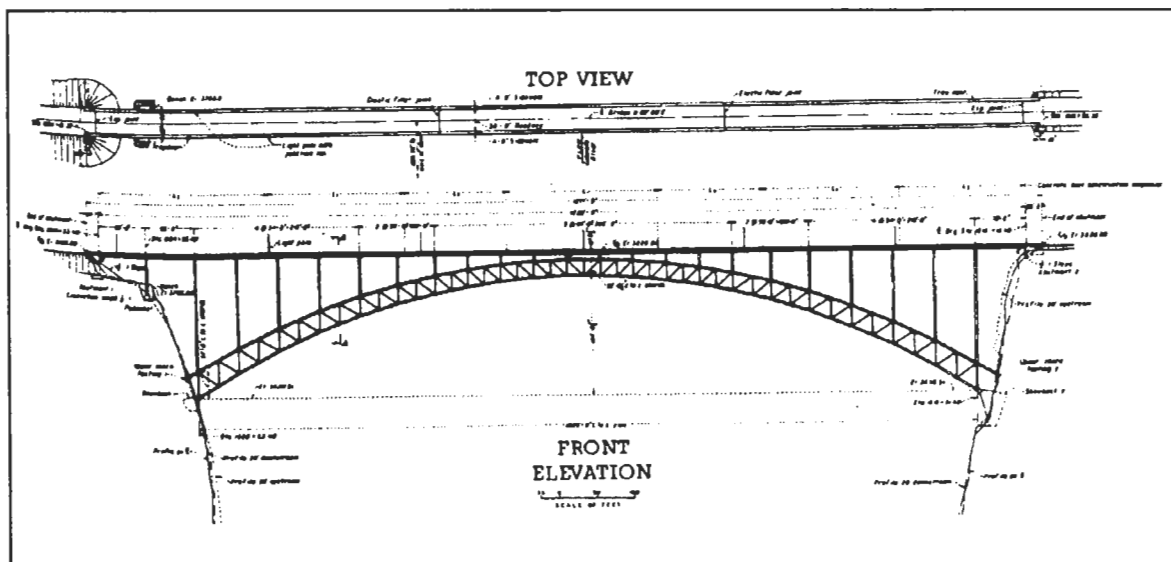

Figure 4 - Top View and Front Elevation
2. Select a sheet of 1/8" 11" x 17" graph paper. Tape it to a drawing board, so that you may begin drawing a top view and front elevation of your design. (See Figure 4.)